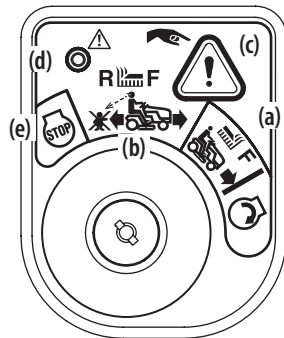

Figure 19
2. Turn the key from the NORMAL MOWING  (a) position to the REVERSE CAUTION MODE  (b) position of the ignition module. See Figure 19.
3. Press the REVERSE PUSH BUTTON  (c) at the top, right corner of the ignition module. The red indicator light (d) at the top, left corner of the ignition module will be ON while activated. See Figure 19.